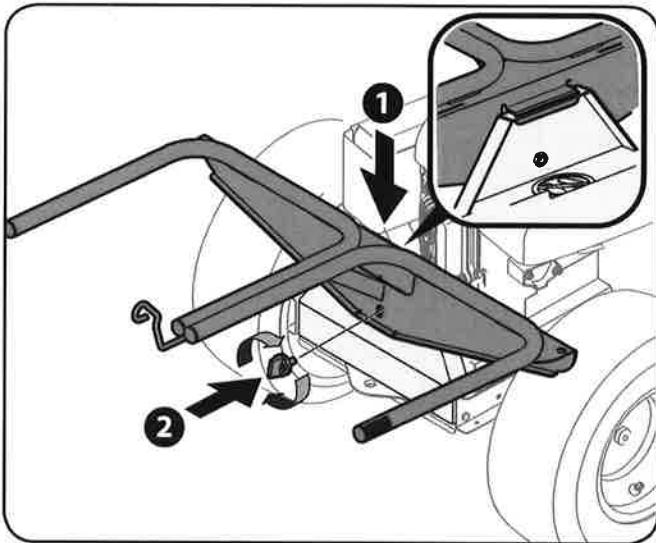

Figure 3
3. Install the grass-bag mounting assembly onto the bagger mounting bracket by lowering it down (1) and fitting the assembly into the slot provided in the mounting bracket. See the Inset in Figure 3.
4. Secure the grass-bag mounting assembly to the bagger mounting bracket using the attachment knob (720-04061) found in the hardware pack (683-05147). See (2) in Figure 3.